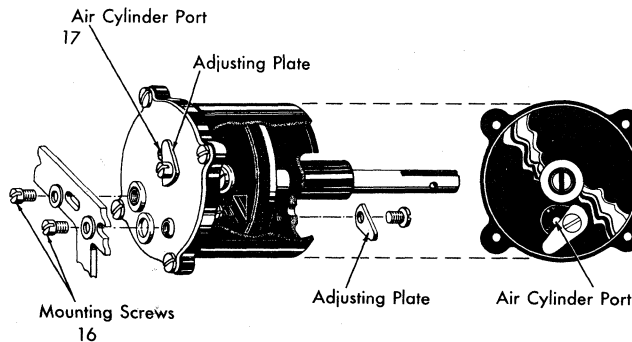

Figure 32. Air Cylinder Adjustment
16. Position the air cylinder front or rear on the side frame, by using the elongated mounting holes, to permit the plunger to move freely in the cylinder without binding (Figure 32).